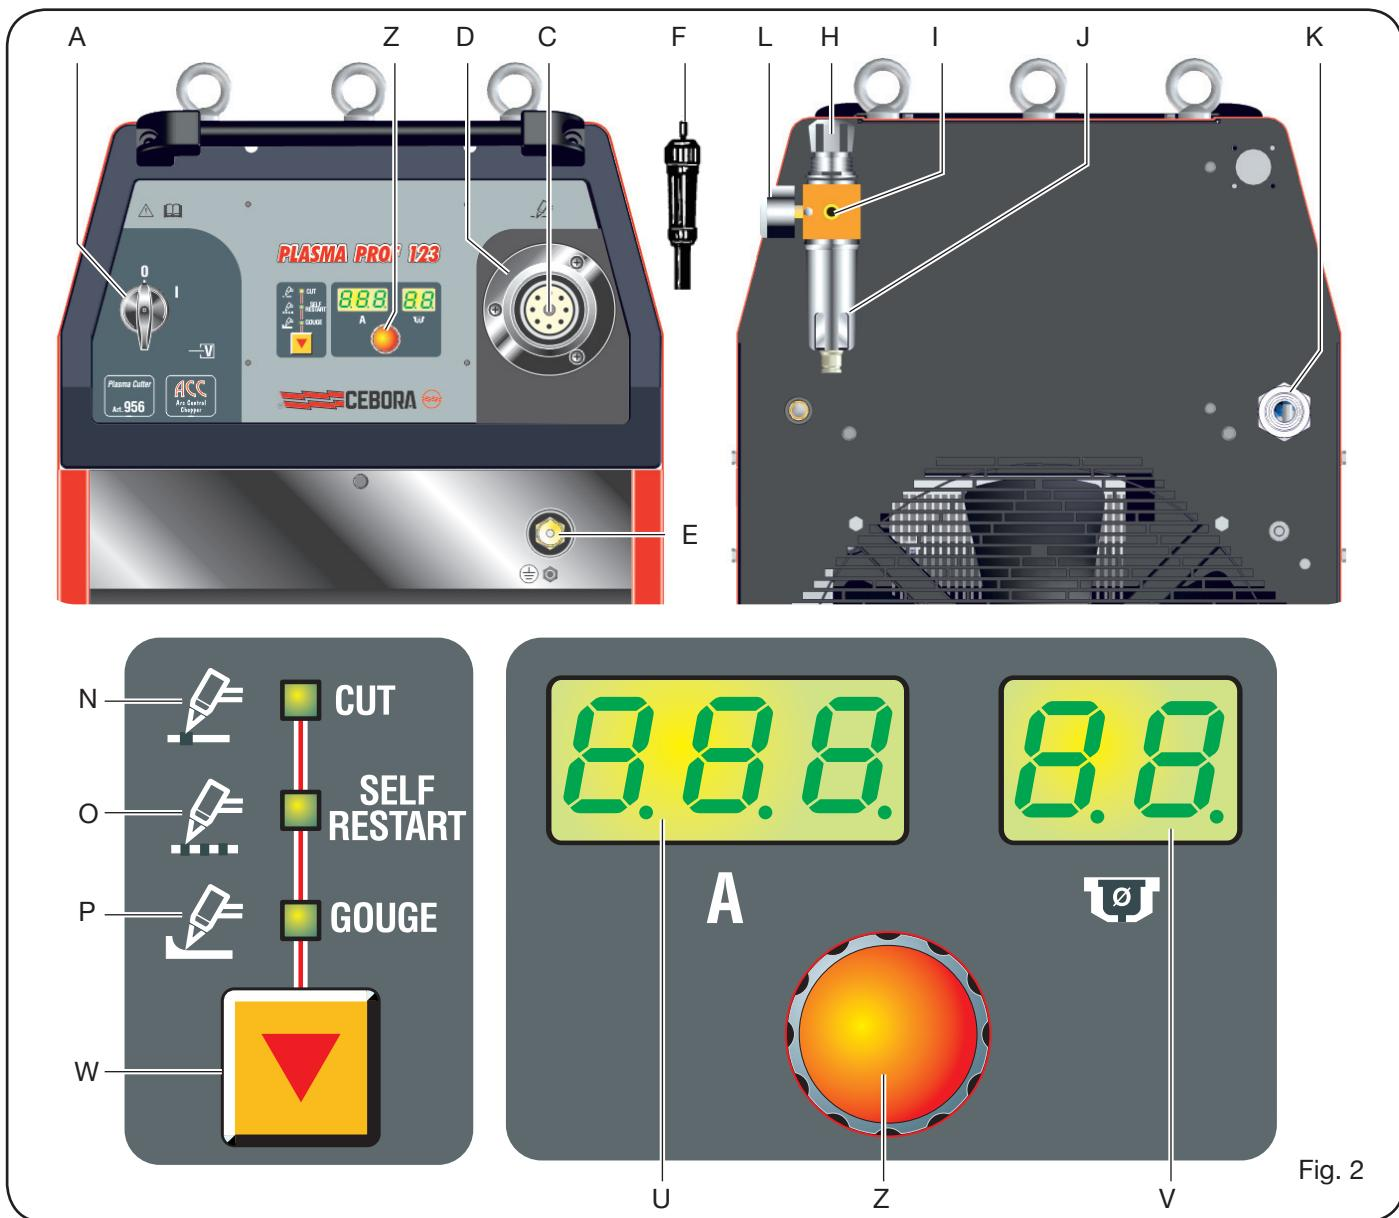

Fig. 2
### 2.2 DESCRIPTION OF THE EQUIPMENT (fig. 2)
b) In case of a plug connection use a plug complying with the plate specifications. In this case the plug must be used to completely disconnect the machine from the mains, after setting the switch **A** to "O" (fig. 2).